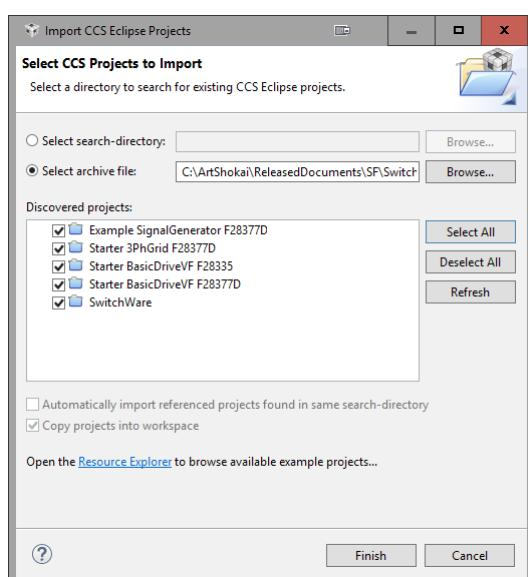

Figure 12: Importing the SwitchWare Library into CCS.
- In the Project menu, select the Import CCS Projects... menu item to show the Import CCS Eclipse Projects dialogue box. See Figure 12.